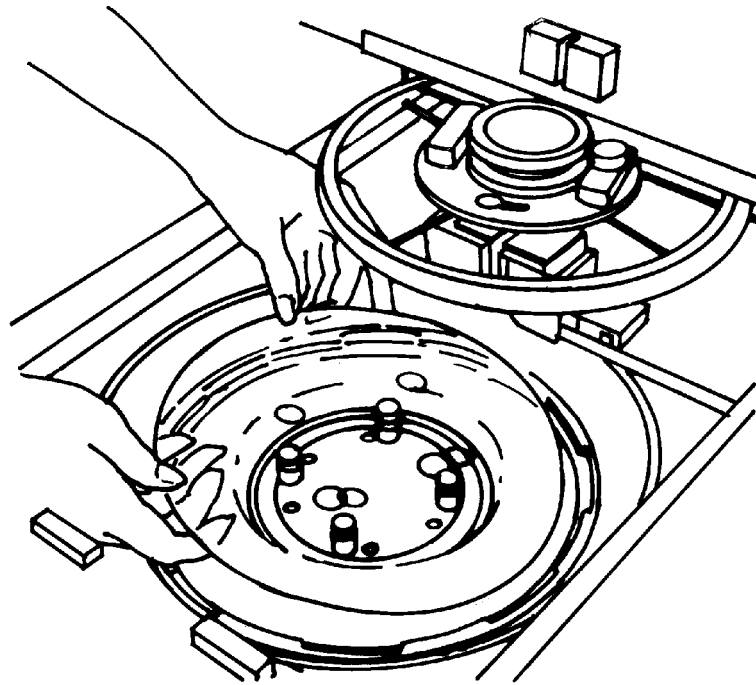

Figure 6-22: Placing the priming disk on top of the cushion
- b Place the priming cushion and priming disk in the centrifuge bowl. Ensure the priming disk is on top of the cushion (Figure 6-22 on page 6-36).
- b Place the priming cushion and priming disk in the centrifuge bowl. Ensure the priming disk is on top of the cushion (Figure 6-22).